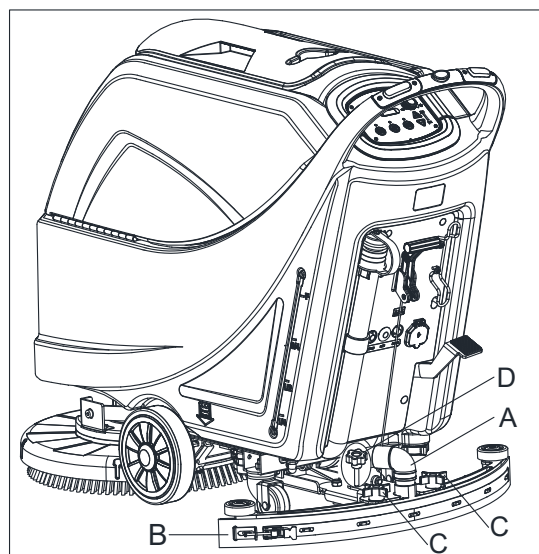
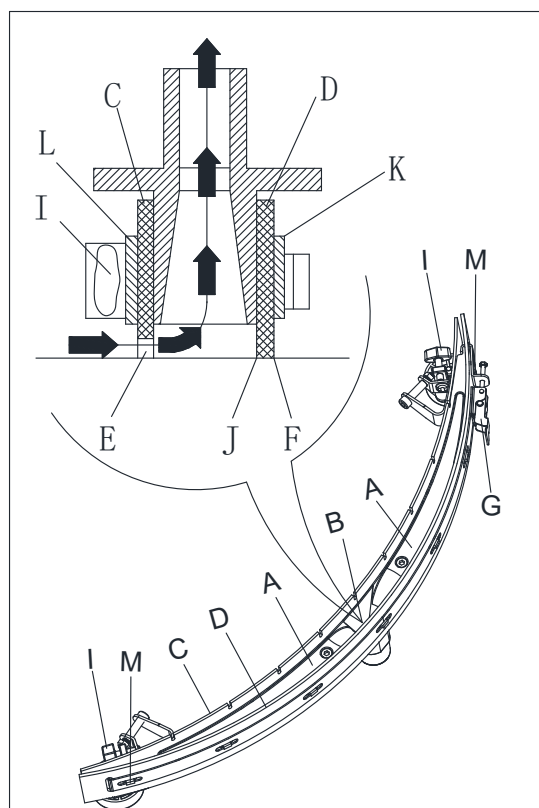

Figure 19
Figure 20
2. Check that the edges (E, Figure 20) of the front blade (C) and the edges (F) of the rear blade (D) lay down on the same level, along their length; if necessary adjust their height according to the following procedure:
- Remove the tie rod (G), disengage the fasteners (M) and adjust the rear blade (D), then engage the fasteners (M) and install the tie rod (G).
- Loosen the knobs (I) and adjust the front blade (C), then tighten the knobs.
3. Check the front blade (C) and rear blade (D) for wear, cuts and tears; if necessary replace them according to the following procedure. Check that the front corner (J) of the rear blade (D) is not worn; if necessary; overturn the blade to replace the worn corner with an integral one. If the other corners are worn too, replace the blade according to the following procedure:
- Remove the tie rod (G), disengage the fasteners (M) and remove the retaining strip (K), then replace/overturn the rear blade (D). Assemble the blade in the reverse order of disassembly.
- Unscrew the knobs (I) and remove the retaining strip (L), then replace the front blade (C). Assemble the blade in the reverse order of disassembly. After the blade replacement (or overturning), adjust the height as shown in the previous step.
4. Connect the vacuum hose (A, Figure 19) to the squeegee.
5. Install the squeegee (B) and screw down the knobs (C).
6. If necessary, adjust the squeegee balance adjusting knob (D).